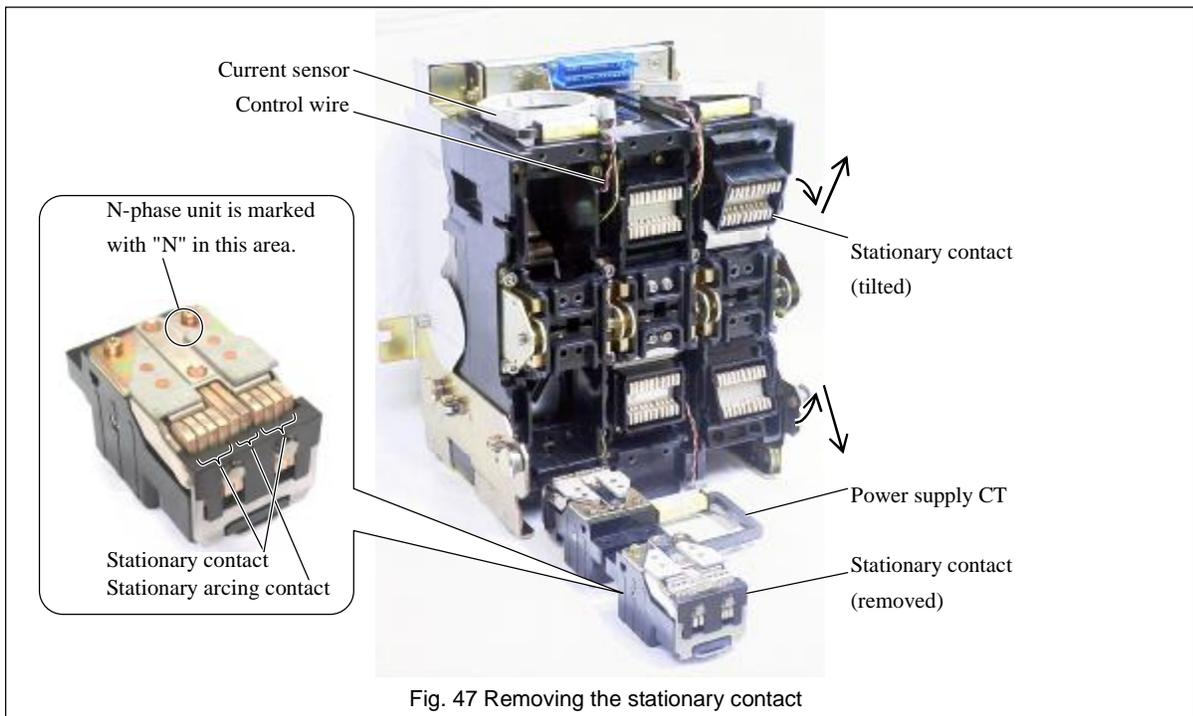

Fig. 47 Removing the stationary contact
4) Tilt and remove the stationary contact as shown in Fig. 47.